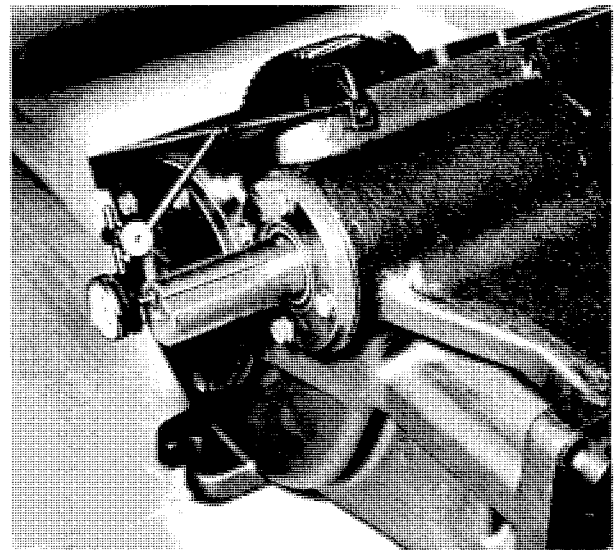

Fig. 7
- B. Put on other cap using total shim thickness known to be more than needed so that resulting end play is greater than required. Tighten cap screws holding pinion or crankshaft caps to gear case. Rotate pinion shaft back and forth and apply about 15 lbs. axial force to properly seat tapered rollers. Measure end play by using an indicating gage in a manner shown in Fig. 7.
6. Install left bearing cap with one .015 thick and one .003 thick shim and tighten the eight socket head cap screws to the recommended torque. Rotate pinion shaft back and forth and apply about 15 lbs. axial force to properly seat the tapered rollers. Measure end play by using an indicating gage in a manner as shown in Fig. 7.